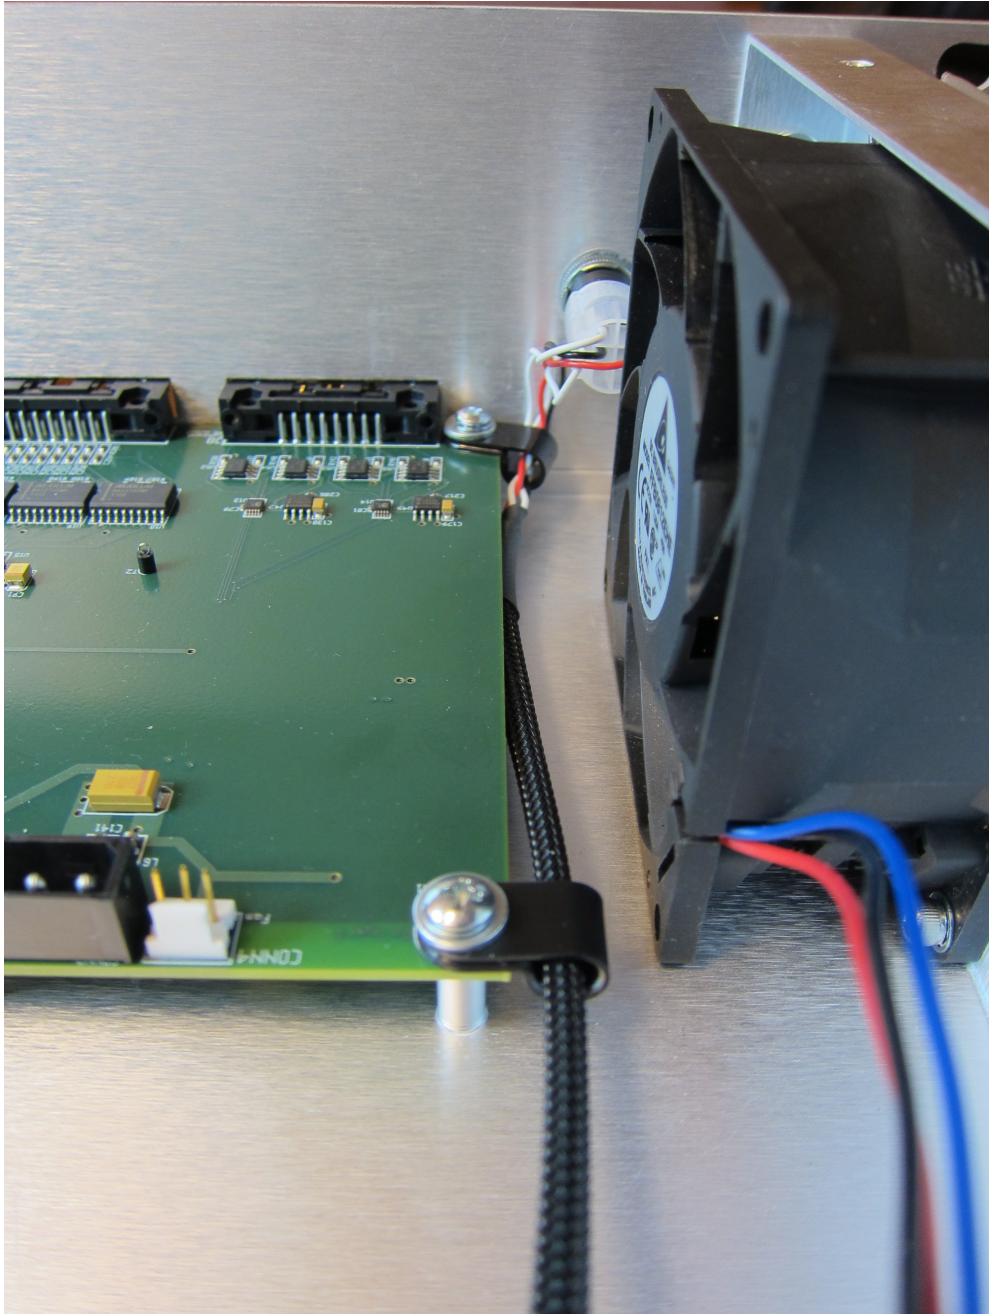

Figure 34: Mounting points M1 and M3 with the cable clamps.
7. Route power switch cable through two 1/4" cable clamps (561-B0125) and install the clamps at mounting points M1 and M3 — see Fig. 34. Tighten to 4 in-lbs.